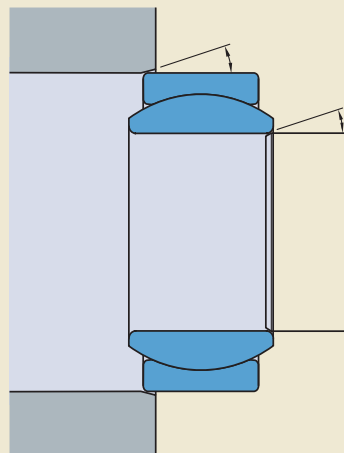

Fig. 17
- provide recesses in the shaft shoulder (→ **fig. 17**)